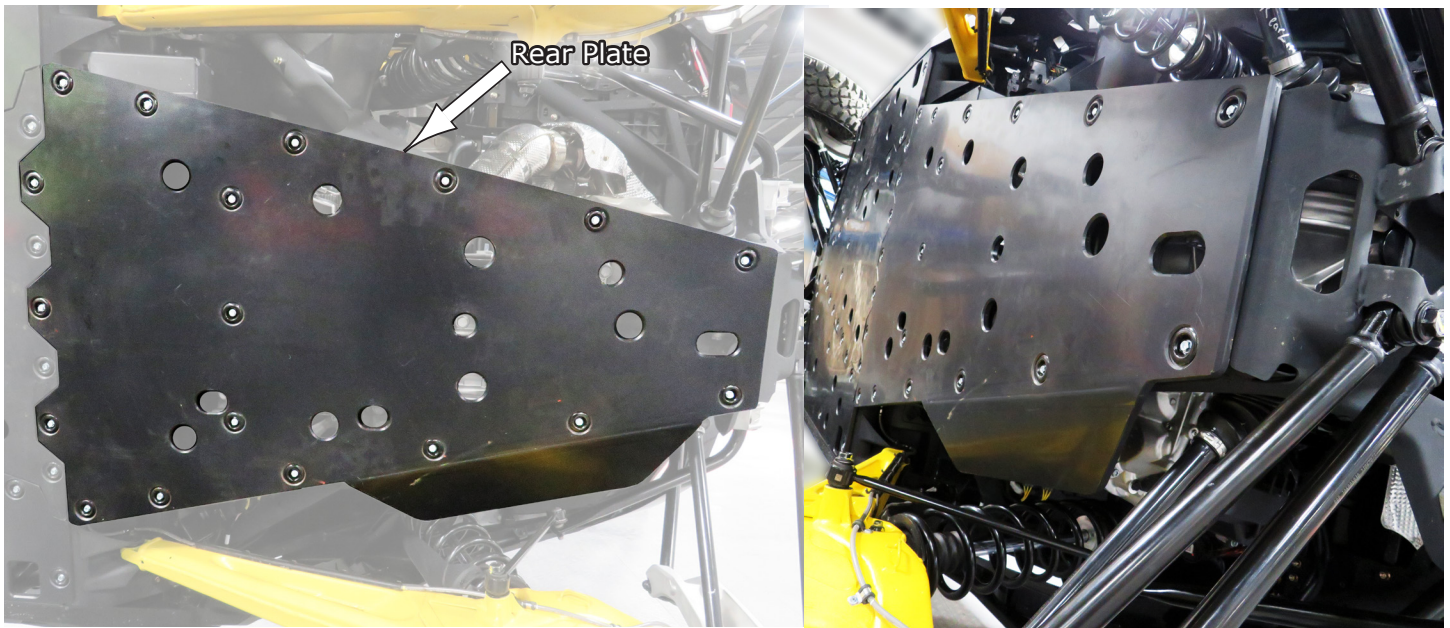

Fig.6
6. The last plate is the **Rear Plate**. You will install it using the same **Self-Tap Screws** and **Bowl Washers** as the other previous plates. There are (18) locations on the **Rear Plate** as shown in **Fig.6**. Lightly snug but do not tighten just yet. See **Fig.6**.